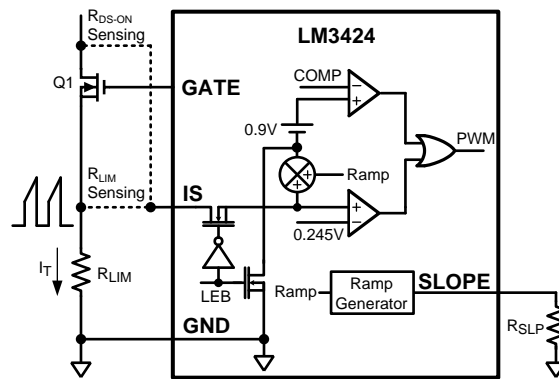

Figure 9. Current Sense / Current Limit Circuitry
The LM3424 achieves peak current mode control using a comparator that monitors the main MosFET (Q1) transistor current, comparing it with the COMP pin voltage as shown in Figure 9. Further, it incorporates a cycle-by-cycle over-current protection function. Current limit is accomplished by a redundant internal current sense comparator. If the voltage at the current sense comparator input (IS) exceeds 245 mV (typical), the on cycle is immediately terminated. The IS input pin has an internal N-channel MosFET which pulls it down at the conclusion of every cycle. The discharge device remains on an additional 240 ns (typical) after the beginning of a new cycle to blank the leading edge spike on the current sense signal. The leading edge blanking (LEB) determines the minimum achievable on-time (t_{ON-MIN}).
Looking at Figure 9, the positive PWM comparator input is the IS voltage, a mirror of I_L during t_{ON} , plus a typical 900 mV offset. The negative input of the PWM comparator is the COMP pin which is proportional to I_C , the threshold at which the main MosFET (Q1) is turned off.
The LM3424 mitigates current mode instability by implementing an artificial ramp (commonly called slope compensation) which is summed with the sensed MosFET current at the IS pin as shown in Figure 9. This combined signal is compared to the COMP pin to generate the PWM signal. An increase in the ramp that is added to the sense voltage will increase the maximum achievable duty cycle. It should be noted that as the artificial ramp is increased more and more, the control method approaches standard voltage mode control and the benefits of current mode control are reduced.